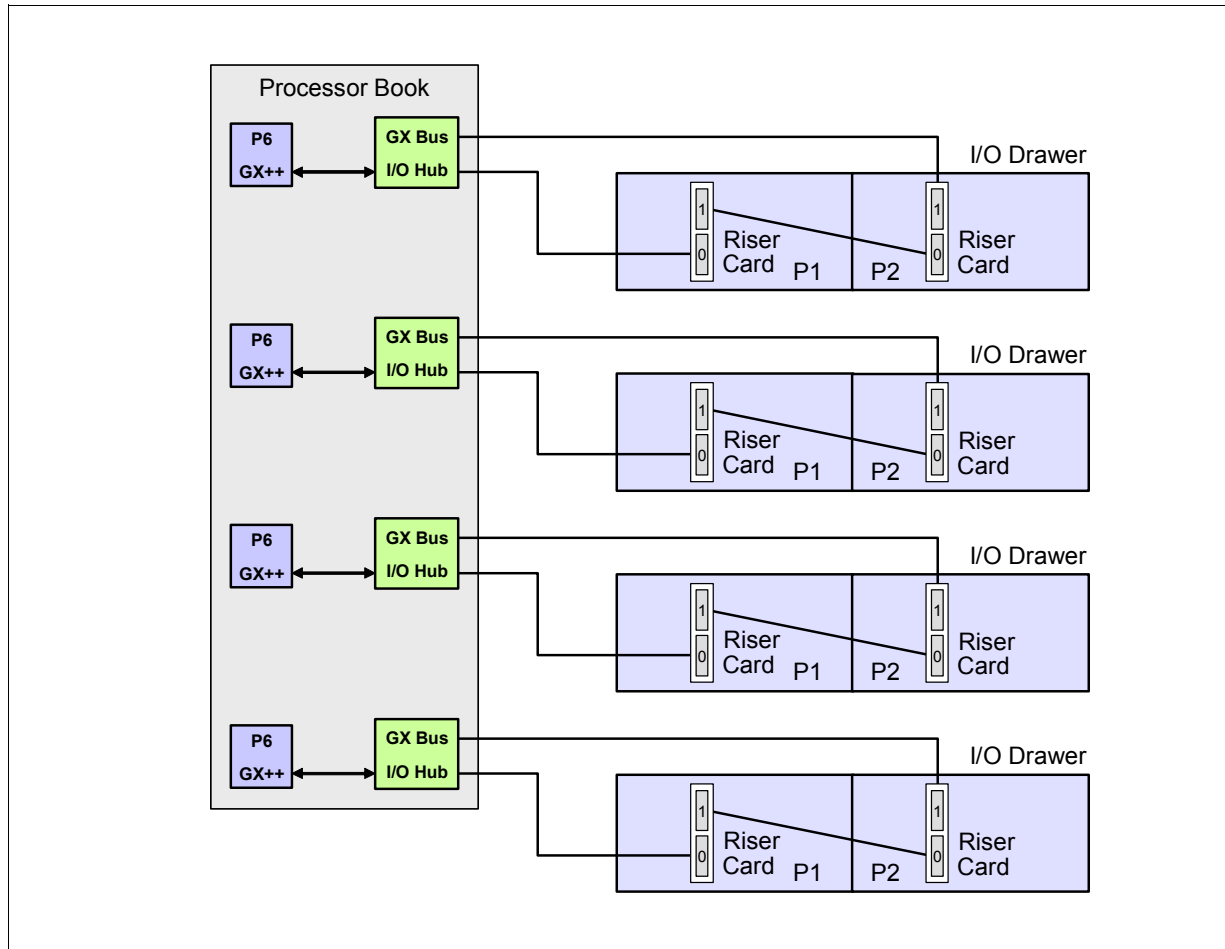

Figure 3-34 Single loop I/O drawer cabling
- ▶ Single-loop (Figure 3-34 on page 152 on page 89) mode connects an entire I/O drawer to the CEC using one RIO-2 or 12x loop. In this configuration, the two I/O planars in the I/O drawer are connected together using a short cable. Single-loop connection requires one RIO-2 Loop Attachment Adapter (#1814) or GX Dual-Port 12x (#1816) per I/O drawer.
Single loop I/O drawer connections are shown in Figure 3-34.